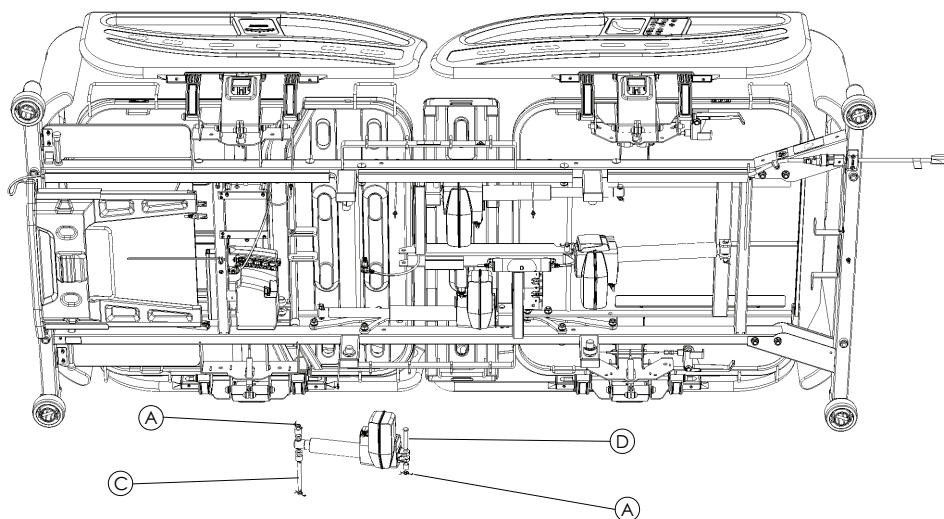

Figure 4 – Gatch (legrest) actuator
6. Using needle nose pliers, remove and discard the rue ring cotter pins (A) (Figure 4) from each clevis pin.
7. Using one hand, support the gatch (legrest) actuator and remove the foot end clevis pin (C) (Figure 4) and spacers then allow the gatch (legrest) actuator to pivot down.
8. Using one hand, support the gatch (legrest) actuator and remove the head end clevis pin (D) (Figure 4) and spacer.